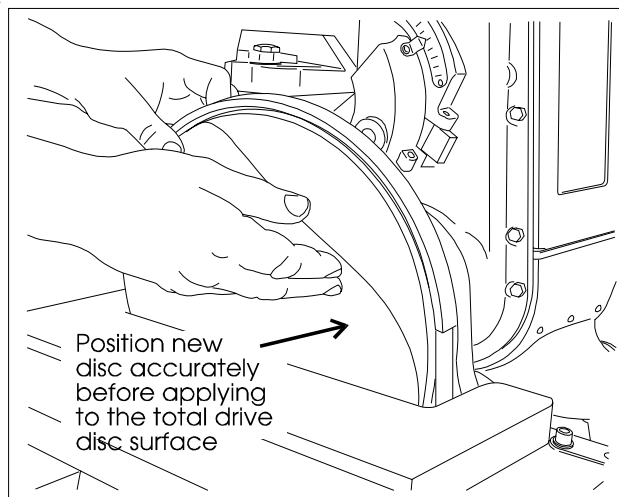

Figure 8: Installing new abrasive disc
5. Position the new disc carefully so it is centered accurately on the drive disc. (See Figure 8.)